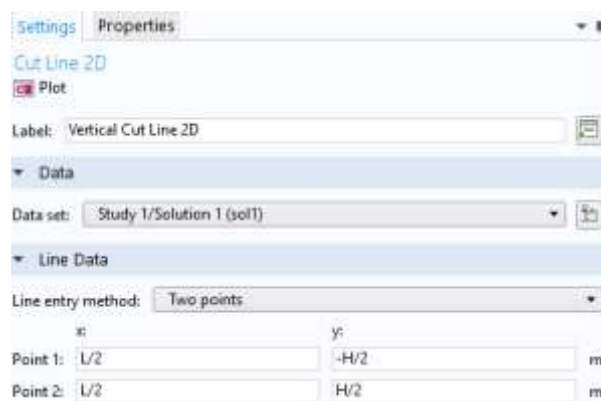

Figure 3 The input data for step 24.
24. Right-click on *Data Sets* under the *Results* menu and select *Cut Line 2D*. Enter the values as shown in Figure 3 and then click *Plot*.